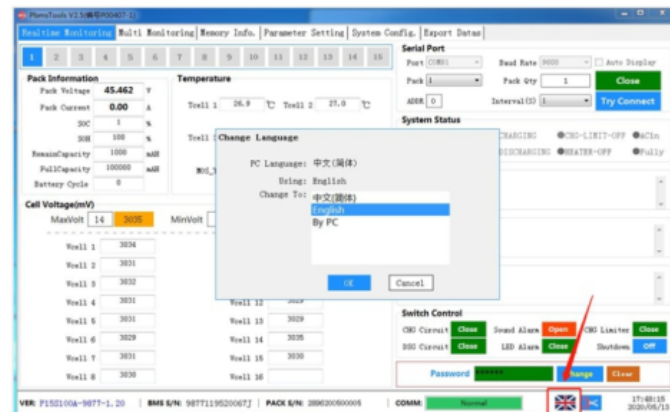

Figure 26:Upper Setting
(7) In the Upper Setting (As shown in figure 26), software language can be set.